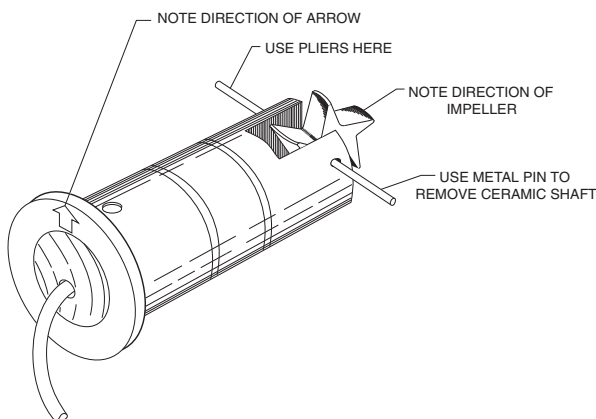

Figure 4: Impeller Assembly and Shaft Replacement
7. Refer to figure 4. To reinstall, position the impeller in the cavity oriented as in step 4 so that the impeller blades point into the flow direction and toward the small alignment hole located beside one of the sighting holes on metal sensors.